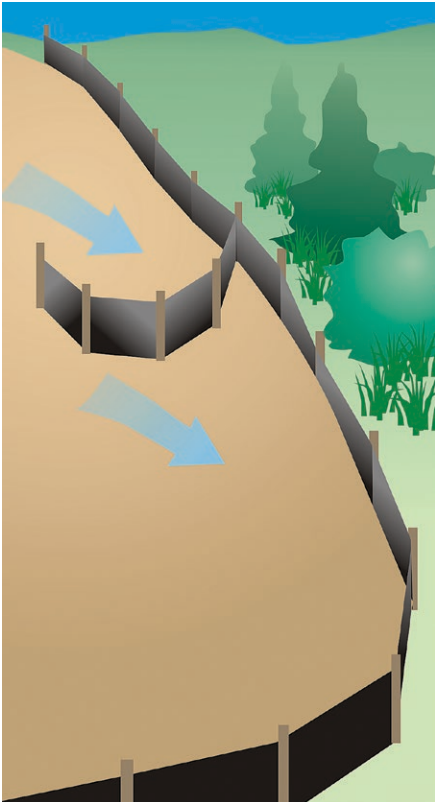

Figure 7. Illustration of "J-hooks" used during silt fence installation.
- ✓ Are the ends turned up (J-hooks. Fig. 7) to help pond the water behind the filter?